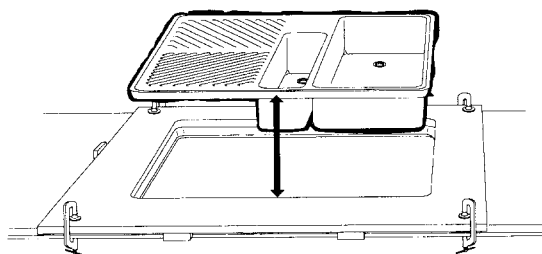

Figure 7
- Position the bowl approximately $\frac{1}{32}$ " to $\frac{1}{16}$ " (1 mm to 2 mm) above the sheet surface (see Figure 7).
To ensure exact repositioning of template, mark its position with two hot-melt glue blocks on the underside of the template and one block on the sheet of CORIAN® (see Figure 7).